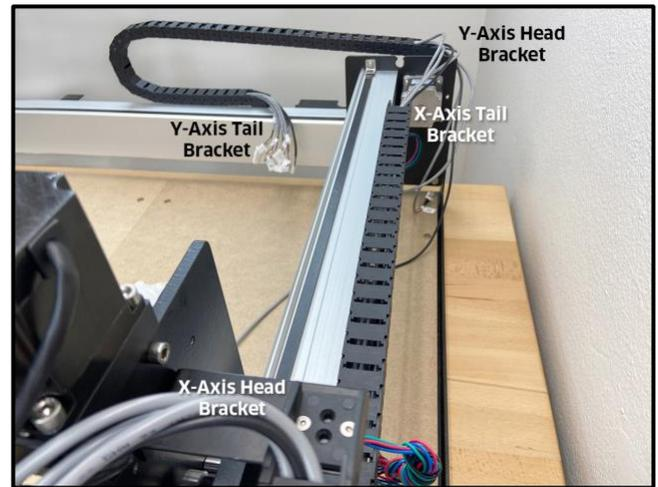

Figure 27
3. Secure the drag chain to the rails. See **Fig. 27**.
- i. Use a 2mm hex key and two (2) M3×4mm FHS to secure.
- ii. Use a 2mm hex key and one (1) M3×4mm FHS to secure.